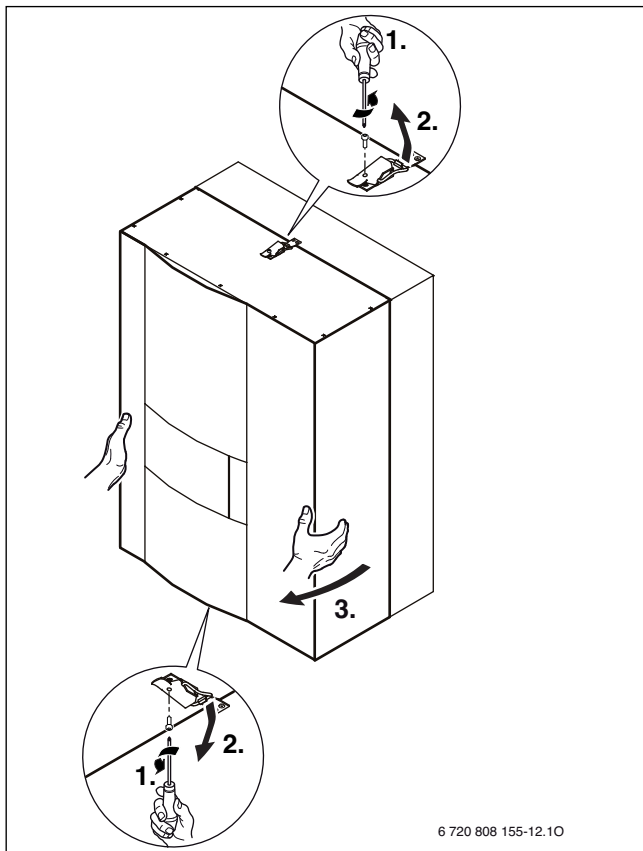

Fig. 32
1. Undo 1 screw on each of the locking levers above and below the casing (→ Fig. 32).